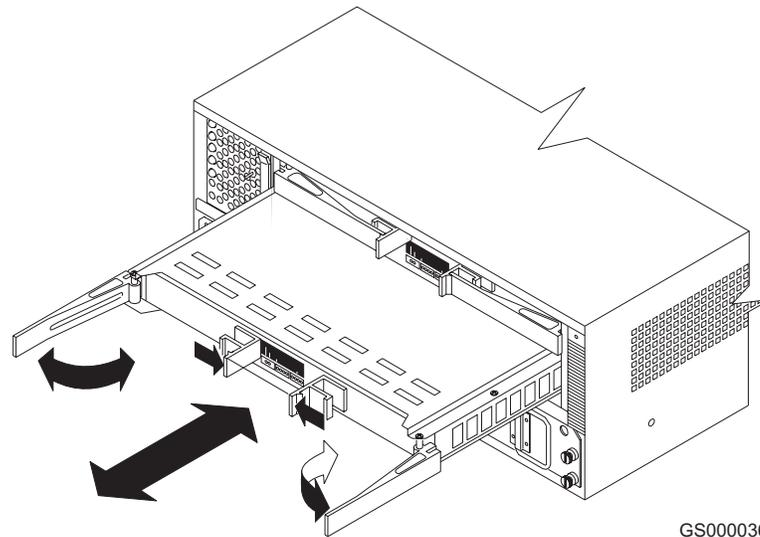

Figure 98. Removing and replacing a failed controller CRU
2. Remove the failed controller, as shown in Figure 98 on page 146.
4. Install the new controller, as shown in Figure 98.